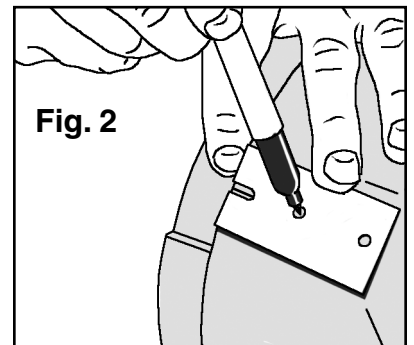

Fig. 2
Step 2: See figure 2. Fold one of the cardboard drilling templates at the scored line. Hold the template against the shoulder of the exit chute, with the latch strike center mark showing through the slot on the template. Carefully mark the positions of the two round holes in the template with a black marker pen.